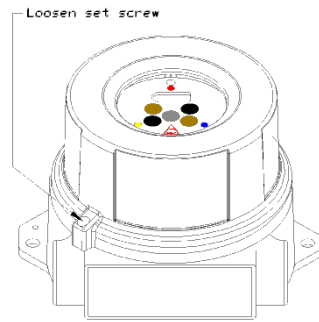

Figure 2-6
4. Loosen the set screw on the enclosure lid (see Figure 2-6).